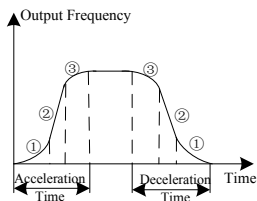

Fig.6-4 S-curve acceleration/deceleration
Starting process of S-curve is shown in Fig.6-4 as “①”, where the changing rate of output frequency increases from 0;
Rising process of S-curve is shown in Fig.6-4 as as “②”, where the changing rate of output frequency is constant;
Ending process of S-curve is shown in Fig.6-4 as as “③”, where the changing rate of output frequency decreases to zero.